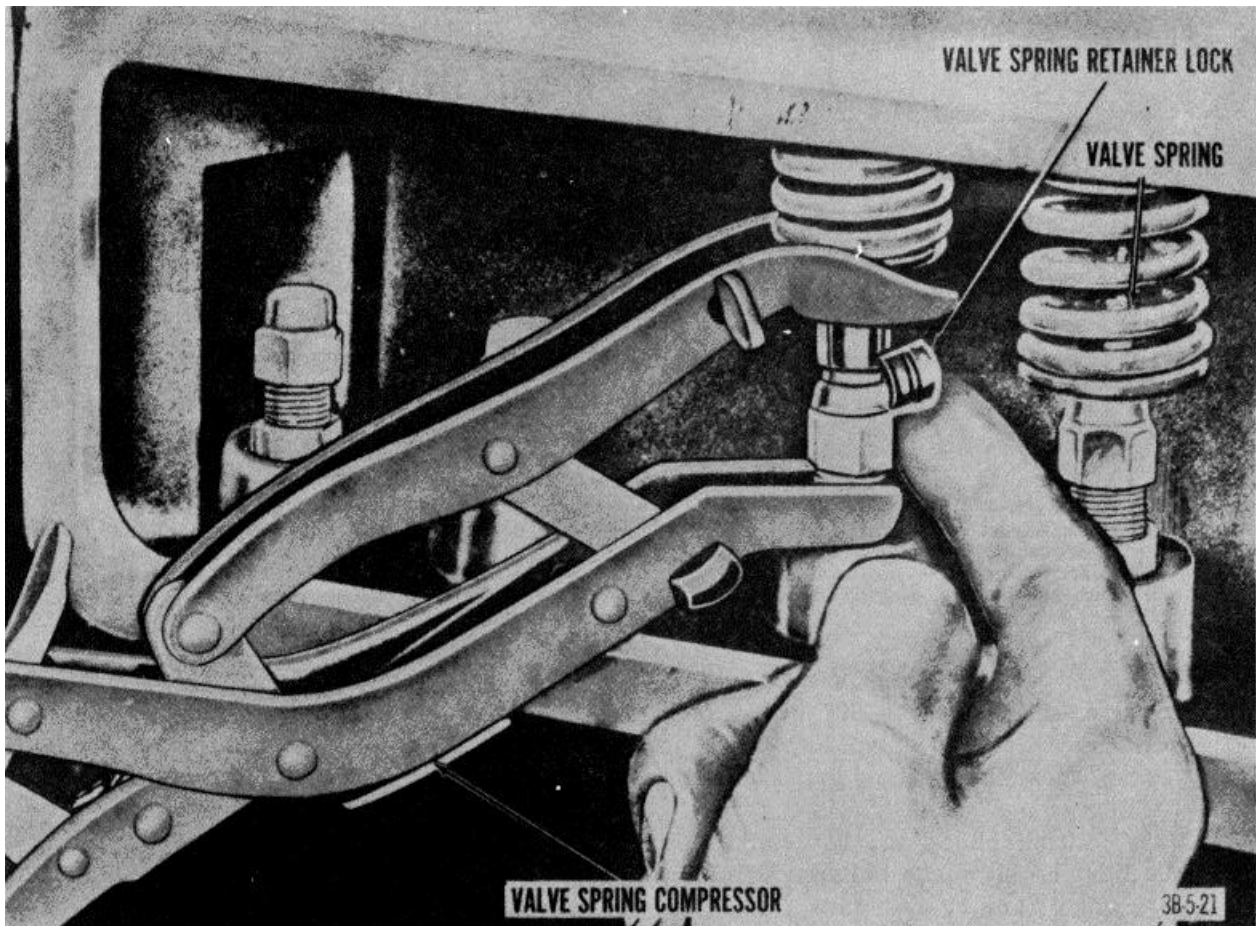

Figure 8. Compressing valve spring..
- (1) Remove cylinder head (TM 10-3930-222-20).
- (2) Remove intake and exhaust manifolds and gaskets (TM 10-3930-222-20).
- (3) Remove valve cover-to-cylinder block studs, sleeve nuts, and valve chamber cover and gasket.
- (4) Using valve spring compressor (fig. 8), and with valve in closed position, compress spring and remove the valve spring locks.
- (5) Remove spring compressor.